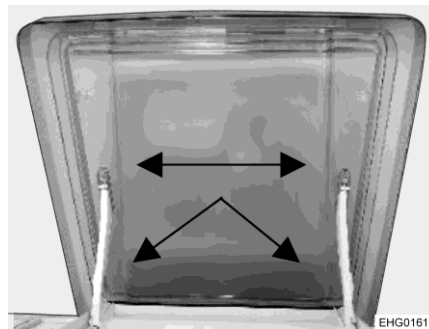

Fig. 175 VisionStar skylight
- The skylight can be removed for cleaning. To do this, carefully remove the plastic pins (Fig. 175, arrows).